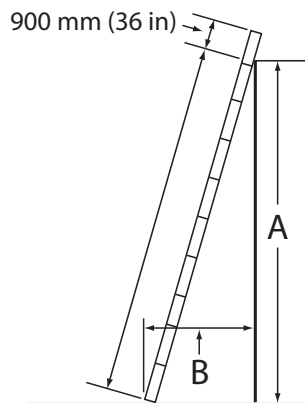

Figure 1—Safe slope
- Use a 4 vertical to 1 horizontal slope. In Figure 1, if A is 4 m (12'), then B should be approximately 1 m (3') (4:1 ratio).